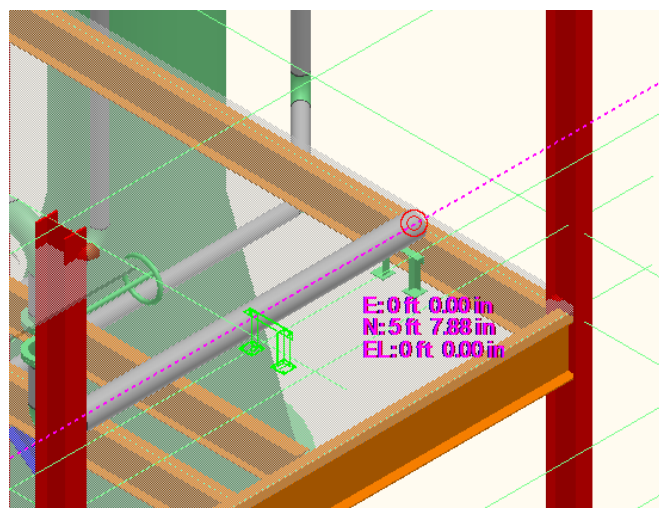

Figure 12: Placing the Second U Shaped Frame L2x2x1/8 w/Baseplate
10. The command will now cycle to the position smartstep defaulting to all options you previously selected. You can change any options you wish and repeat step 8 to place another support, as shown in Figure 12.